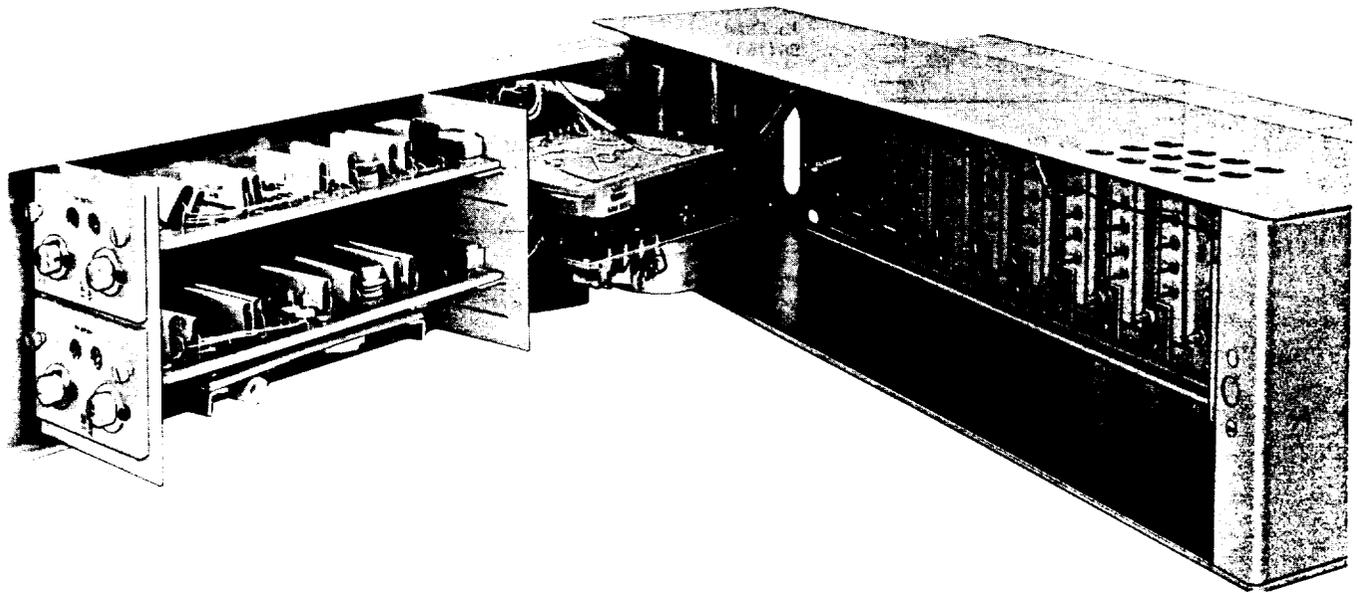

Fig. 5—J68857B Channel Carrier Generator and Filter Unit—Door Open
**2.06** The J68857B carrier generator unit is arranged (Fig. 5) to accommodate a spare plug-in 4-kHz amplifier. The spare amplifier, while in the standby condition, operates at reduced output into a dummy load.